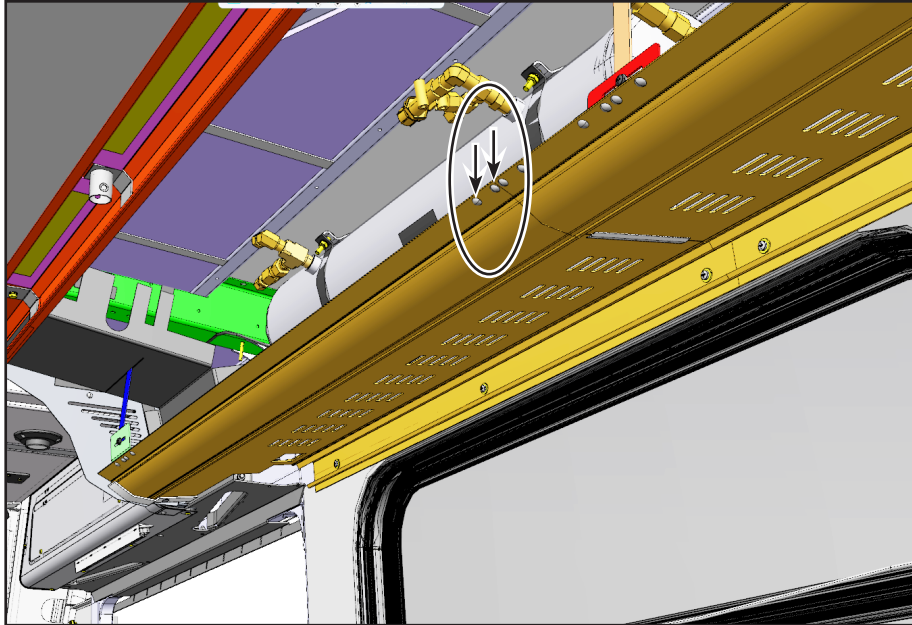

Figure 5 - Drill Out the Two Rivets
- 1.13. To remove the first baselight, start by drilling out the two rivets at the joint of the second baselight. See Figure 5.